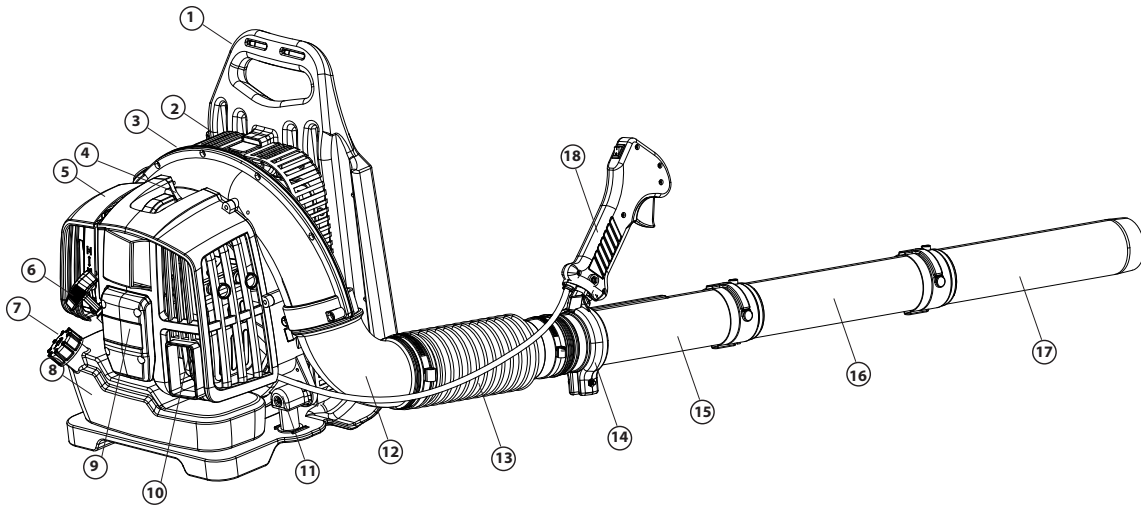

FIGURE 1
3.1.1 Attach the flexible elbow (13) to the pipe angle(12) and the pipe (15) with the clamp (c)(d). **FIGURE 1.**
3.1.2 Attach the handle (18) to the control pipe and put the knob through the handle. **FIGURE 1.**